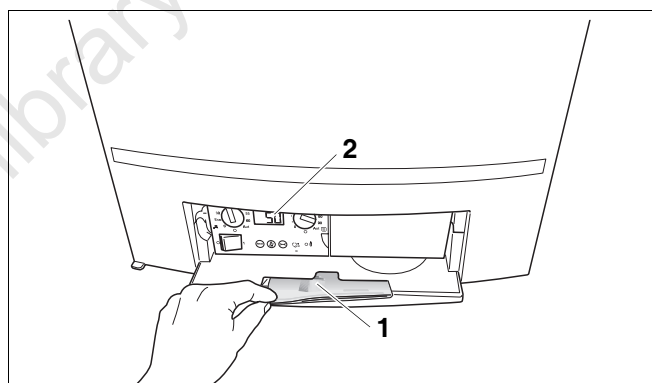

fig. 3 BC10 and User Manual
The BC10 basic controller is located on the left, behind the door (fig. 3, **item 2**).
The User Manual for the boiler is located in a compartment on the rear side of the door (fig. 3, **item 1**).